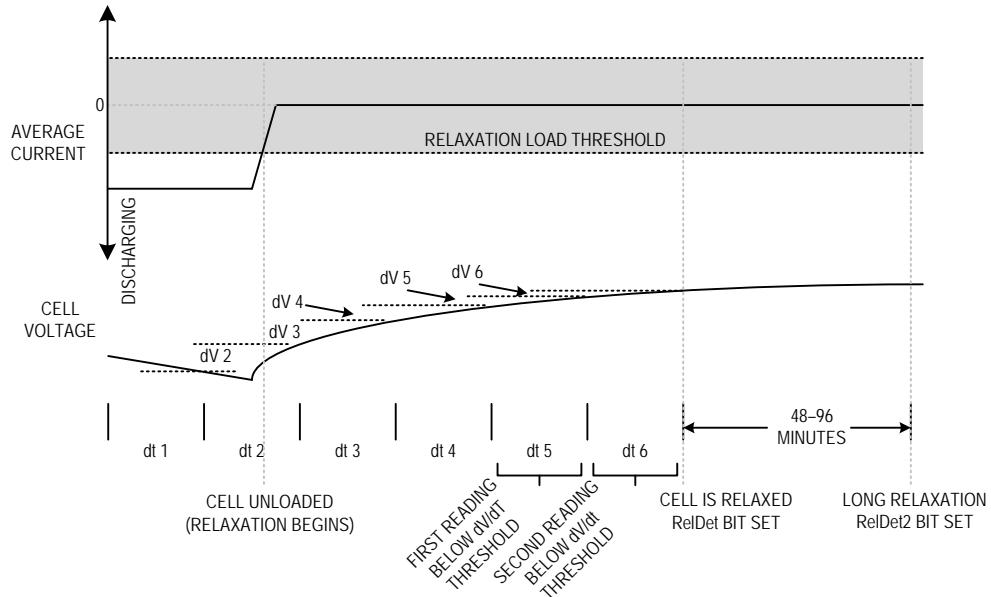

Figure 13. Cell relaxation detection.
The RelaxCfg register defines how the IC detects if the cell is in a relaxed state with a low dV/dt. Figure 13 describes relaxation detection. If AvgCurrent remains below the LOAD threshold while AvgVCell changes less than the dV threshold over two consecutive periods of dt, the cell is considered relaxed. Table 16 shows the RelaxCfg register format:
**RelDt (Relaxed Cell Detection):** This bit is set to a 1 whenever the ModelGauge m5 algorithm detects that the cell is in a fully relaxed state. This bit is cleared to 0 whenever a current greater than the Load threshold is detected. See Figure 13.
**RelDt2 (Long Relaxation):** This bit is set to a 1 whenever the ModelGauge m5 algorithm detects that the cell has been relaxed for a period of 48 to 96 minutes or longer. This bit is cleared to 0 whenever the cell is no longer in a relaxed state. See Figure 13.